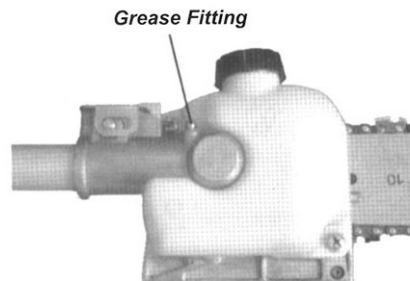

Figure 37
- Lubricate the gearcase. To perform this operation, first remove the gearcase from the upper outer tube as follows (Figure 37):